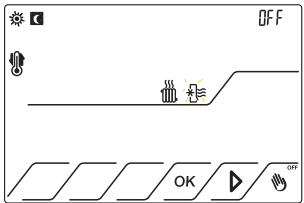

Fig.7
3.2.3 Press  up to position on  that it will start to flash and OFF appears. Fig.7